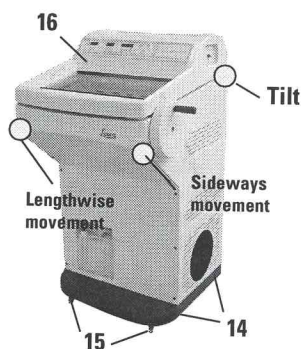

Fig. 4
- Move the instrument to the installation site on its wheels (14). Please note the areas which are reinforced for transporting and grip the cabinet only at these locations (Fig. 4).
- The adjustable feet (15) can support the weight of the instrument when tipping at a slight angle (max. 30 °).
- At the installation site unscrew the screws in the adjustable feet (15) using a fork wrench.